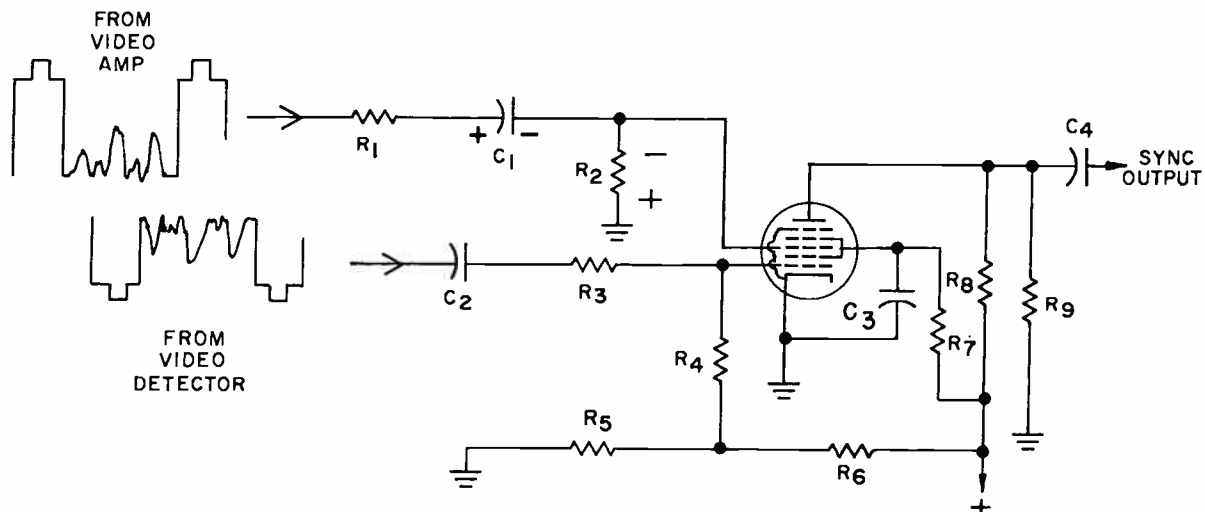

Fig. 14. A pentagrid sync separator and noise reduction circuit.
A sync separator and noise reducing system that makes use of a pentagrid tube is shown in Fig. 14. In this system, two composite video signals 180° out-of-phase are taken from two points in the video amplifier and applied to the pentagrid sync separator and noise-cancelling circuit. The actual sync separator
To eliminate this difficulty, every precaution is taken in modern design to lower the influence of noise before it has an opportunity to reduce the amplitude of the synchronizing information or trigger the sawtooth generating circuits erroneously. Noise cancellation in the circuit of Fig. 14 is accomplished by applying a second, but negative, composite signal to the first grid of the separator. Except for polarity and amplitude, the two composite signals are identical. The signal applied to the first grid is a negative composite signal and is low in amplitude because it is taken from the video detector output. The signal applied to the third grid will be a positive composite signal of much greater amplitude because it has been amplified and
The output of the sync separator in Fig. 14 will be negative-going sync pulses. In some receivers, positive-going sync pulses are required to synchronize the sweep oscillators. In these receivers, the negative sync signal from the separator output is applied to a sync amplifier. Here its amplitude is increased and it is inverted for proper application to the synchronizing circuits of the sawtooth generators. The sync amplifier is normally operated at a low plate voltage to produce early saturation and cut-off. As a result, the base line sync signal is held flat by limiting action and any instantaneous positive peak is leveled by grid conduction and early saturation. This will help maintain all the sync pulses at exactly the same amplitude.
- (q) Which grid of the pentagrid converter in Fig. 14 is used for sync separation?
- (r) Which grid of the pentagrid converter in Fig. 14 is used for noise cancellation?
- (s) What will the polarity be of the sync pulses in the plate circuit of the tube in Fig. 14?